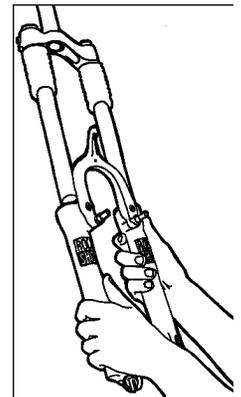

Fig. 4
11. Slide off one piece lower tube assembly. Remove the fork boots (Fig. 4).